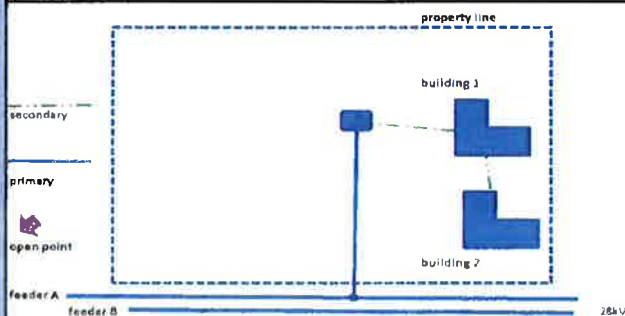

FIGURE 2: 2 BUILDING CONNECTION less than 1,000kVA
1. Where a property has more than 1 building, and has a load of less than 1,000kVA, then one transformer feeding multiple buildings is acceptable. See Figure 2. Site plan geography is important, since distance on secondary cables must be considered – more transformers may be required.